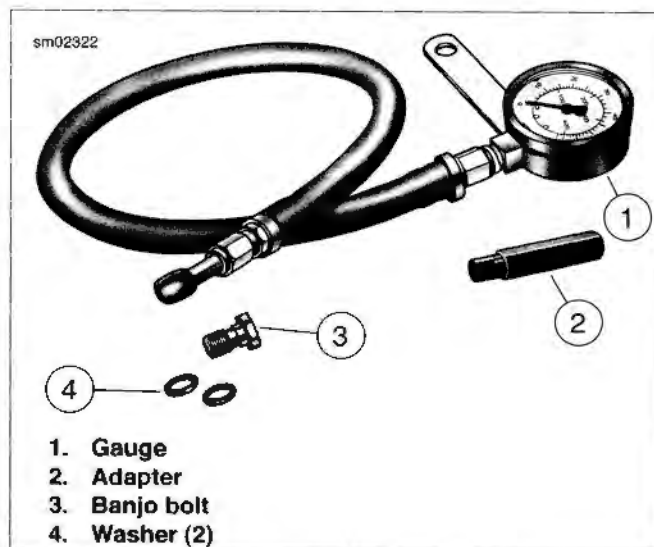

Figure 3-14. Oil Pressure Gauge Set
3. See Figure 3-14. Install OIL PRESSURE GAUGE SET (Part No. HD-96921-52D).
- a. Install adapter (2) in oil pressure switch mounting hole. Tighten adapter until snug.
- b. Assemble banjo bolt (3), washer (4), oil pressure gauge (1) banjo fitting and second washer onto adapter and tighten until snug.